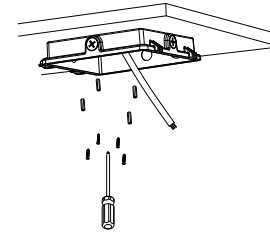

FIGURE 2-4
4. Fix the driver box cover on the ceiling (Figure 2-4)